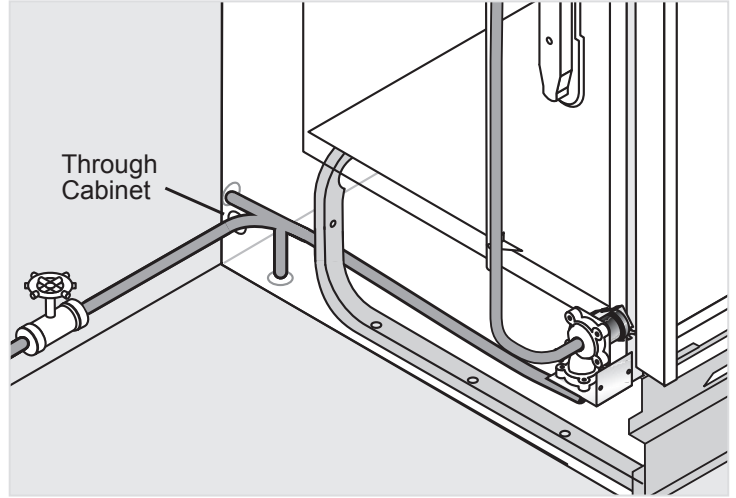

Figure 4
- Determine amount of tubing needed to connect the hot water supply to the unit's water inlet valve. Copper tubing must have a minimum 3/8" OD. High-pressure and high-temperature rated plastic tubing with a minimum inner diameter of 1/4" may be used. A shut-off valve installed outside dishwasher cabinet is best. See Figure 4.